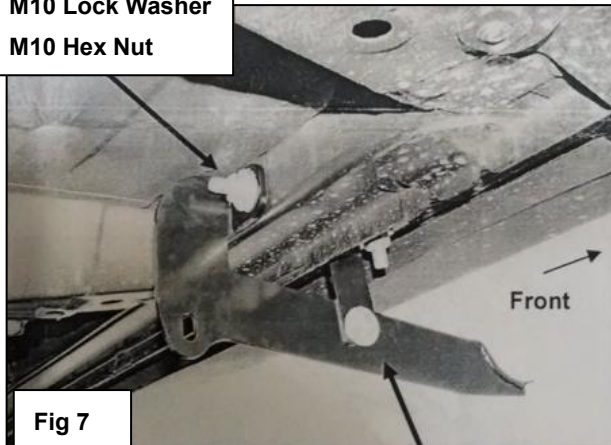

Fig 7
6	Select (1) Front "L" Support Bracket, (Figure 6) . Attach the shorter leg on the Support Bracket to the front Bolt Plate with (1) M10 Flat Washer, (1) M10 Lock Washer and (1) M10 Hex Nut, (Figures 7 & 8) . Leave hardware loose at this time.
7	Select the driver side Front Mounting Bracket. Attach the Bracket to the Bolt Plate in the back of the frame channel first with (1) M10 Flat Washer, (1) M10 Lock Washer and (1) M10 Hex Nut, (Figure 7) . Attach the Mounting Bracket to the back of the "L" Support Bracket with (1) M8x30mm Hex Bolt, (2) M8 Large Flat Washers, (1) M8 Lock Washer and (1) M8 Hex Nut, (Figures 7 & 8) . Do not tighten hardware at this time.